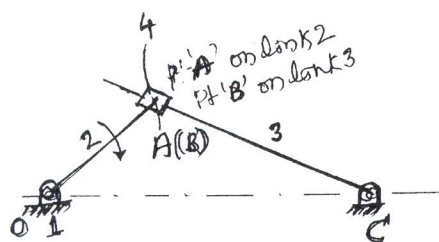

Fig.Q.3(b)
- b. A quick return motion mechanism is shown in Fig.Q.3(b). Link 2 rotates with constant speed of 21 rad/sec. in CW direction. Determine the angular acceleration of link 3. Take $OA = 150\text{mm}$, $OC = 350\text{mm}$, $CB = 250\text{mm}$. (12 Marks)